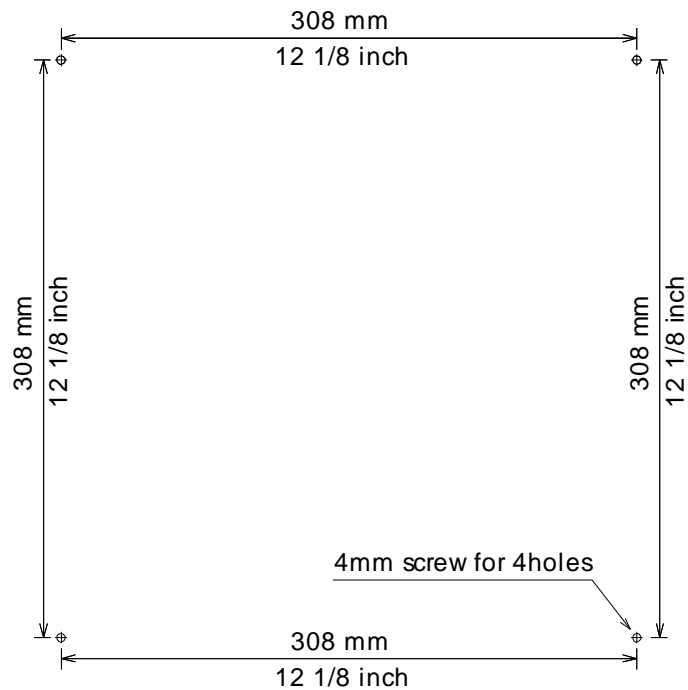

Figure 3.6 Holes for mounting a Processor unit
- (1) Drill four nut-holes with the size shown in Figure 3.6.
- (2) Fit the Processor unit.